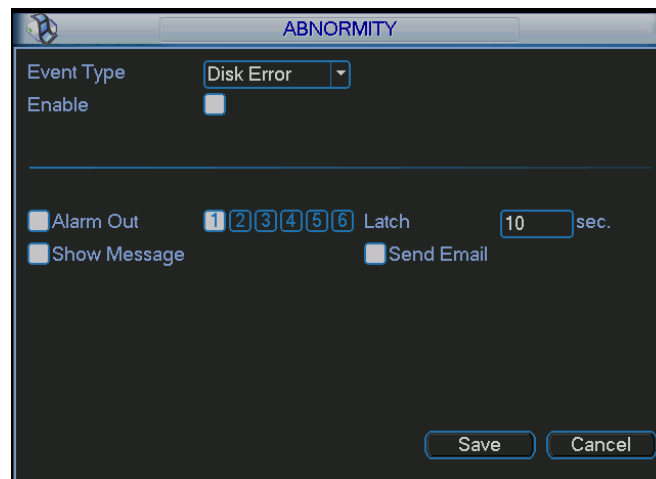

Figure 5-31
- Alarm set: Click alarm set button, the interface is shown as below. See Figure 5-31. (This interface is just like the abnormality setup). Please refer to chapter 5.5.2 for detailed information.